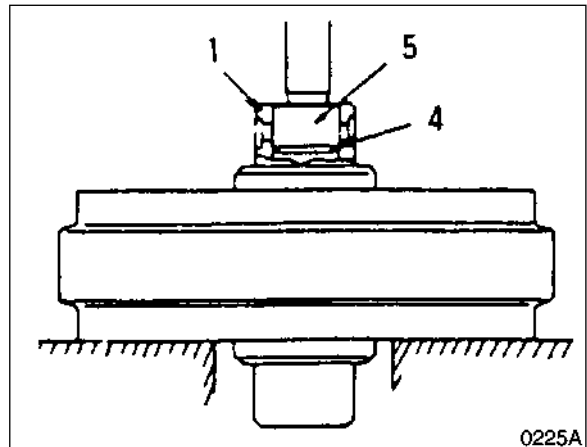

Figure 23
3. Use a press to remove the bearing from the axle. Separate the O-ring (4, Figure 23) from the axle and insert it into the bearing.